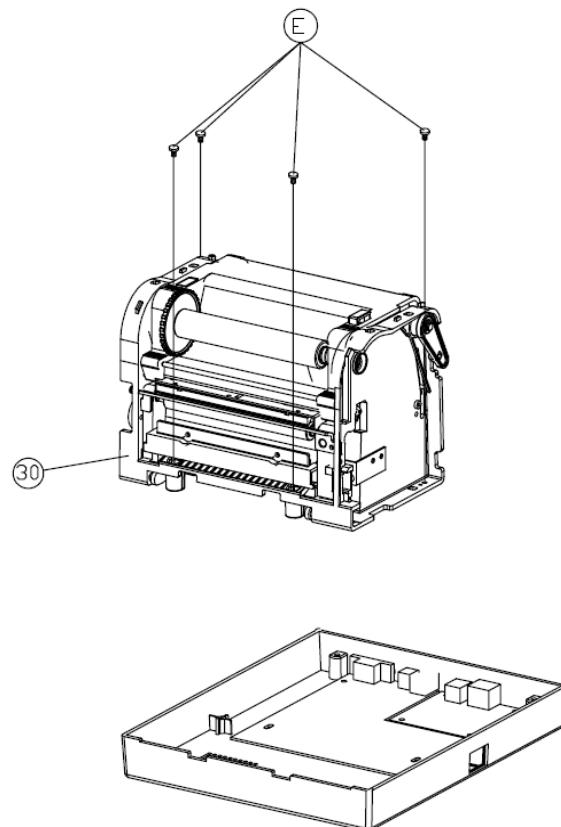

Figure 10.1.2
5. Remove the 4 screws (E).
6. Unplug all the connectors that are connected on the main board. Then remove the "Printer Chassis" (30) as shown in Fig. 10.1.2.